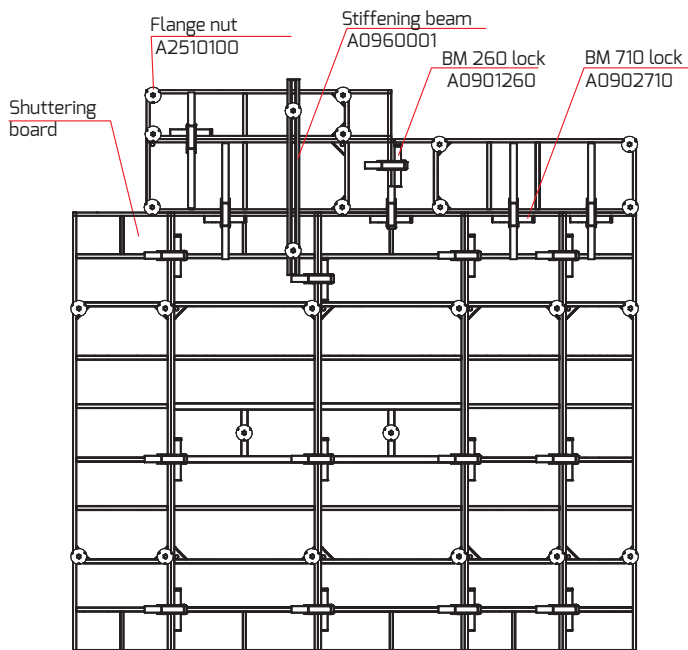

Fig. 3.6
- as regards the basic (bottom) layer connect as shown above, i.e. according to item 3.2. of these instructions;
- the shuttering boards in the superstructures are connected with the BM 710 locks - fitted with a long straightening foot (710 mm) so that the plane that straightens the formwork is larger. Instead of the BM 710 lock you can use the stiffening beam or the formwork transom (fig. 3.6);